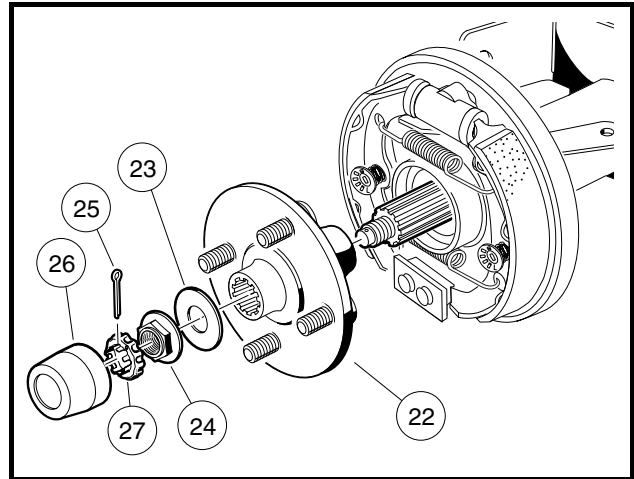
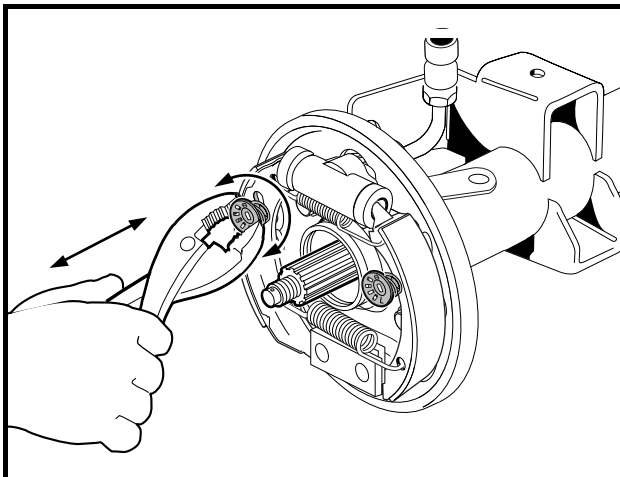

Figure 6-5 Rear Wheel Bolt Flange Assembly
Figure 6-6 Rotate Rear Spring Cups
NOTE: It is recommended that the wheel bolt flange (22) be removed prior to brake shoe removal (Figure 6-5, Page 6-9).
2. Remove rubber boot (26), large flat washer (23), cotter pin (25), and locking cap (27) (Figure 6-5, Page 6-9).
3. Remove the flanged nut (24) and large flat washer (23) from the axle end.
4. Slide the wheel bolt flange (22) off of the splined axle end.
5. Use pliers or a brake tool to rotate the cup washer and compression spring assembly 90° and remove the cup and spring from each brake shoe (Figure 6-6, Page 6-9).